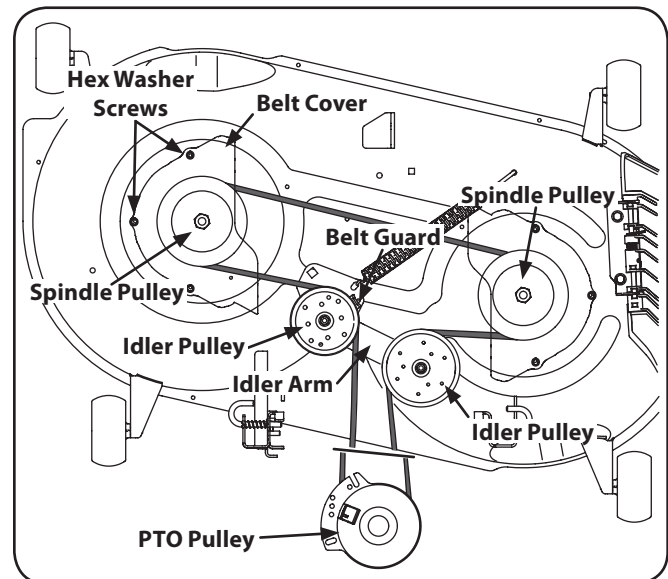

Figure 7-10
2. Remove the hex washer screws securing the belt covers to the deck. See Figure 7-10.
5. Install the new belt around the spindle pulleys as shown and reinstall the belt covers. See Figure 7-10.
7. Route the belt as shown in Figure 7-10 and then reinstall the deck (refer to Deck Installation on page 30).